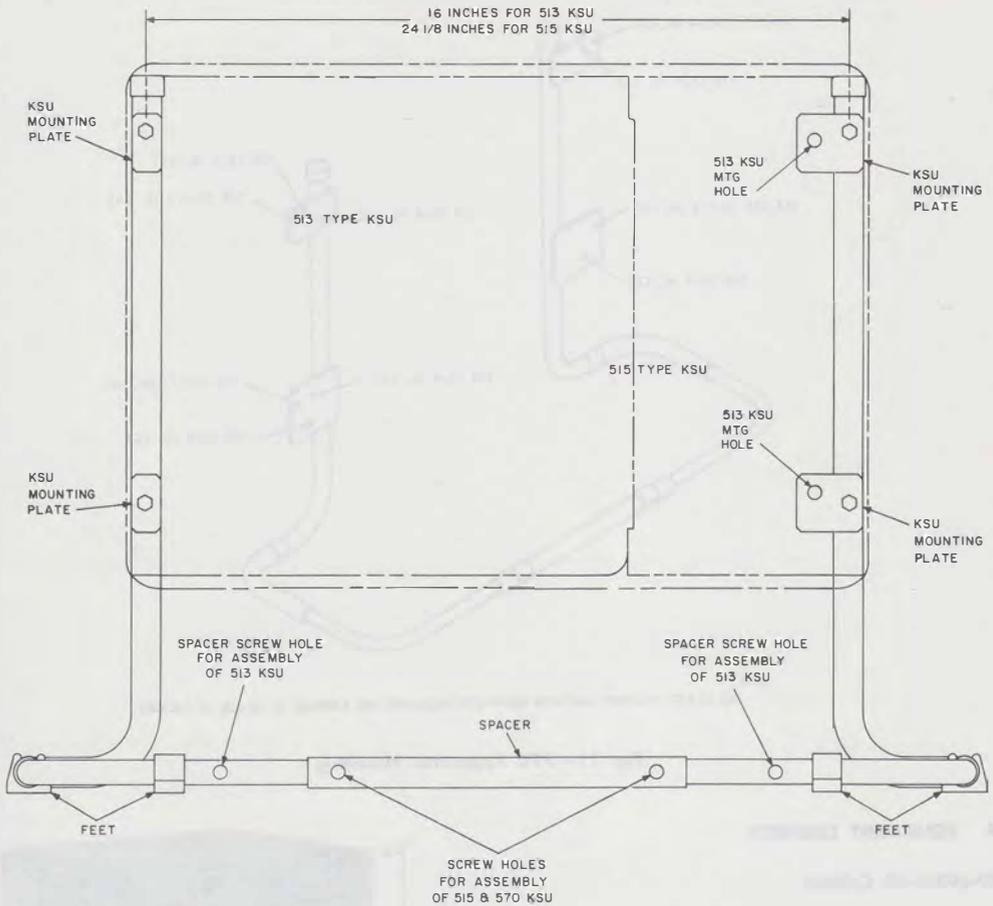

Fig. 10—77B (MD) Apparatus Mounting
3.07 The 77B apparatus mounting (MD) is a floor-type nonanchored metal stand (preformed steel tubing) adjustable for mounting 513-, 515-, and 570-type (with 2-piece backboard) KSUs when wall mounting is not available. The width is determined by how far the base legs are inserted into the spacer (Fig. 10).